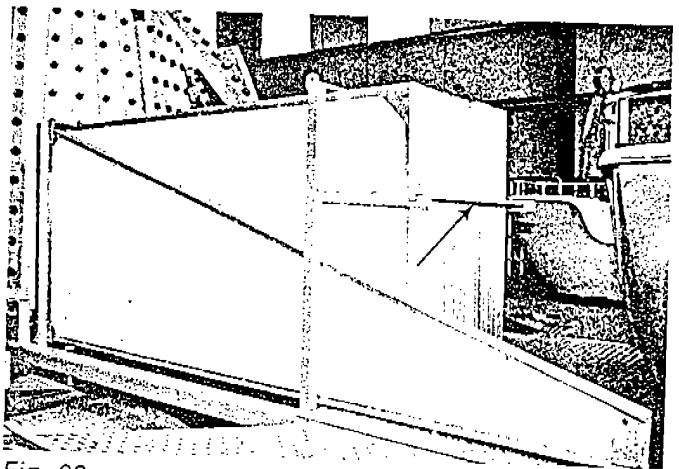

Fig. 66
- (1) Store the decorative panels for the Tip Top sign to the right, near the inside fence rack.
- (2) Store the ballys.
- (3) Store the entrance ramp panels to the left, at the outside of the stack.
- d. Once all ballys and decorative panels are in place, run a locking rod between the two horizontal bars on the rear rack section. *Snap Key in Place.* (Fig. 66)